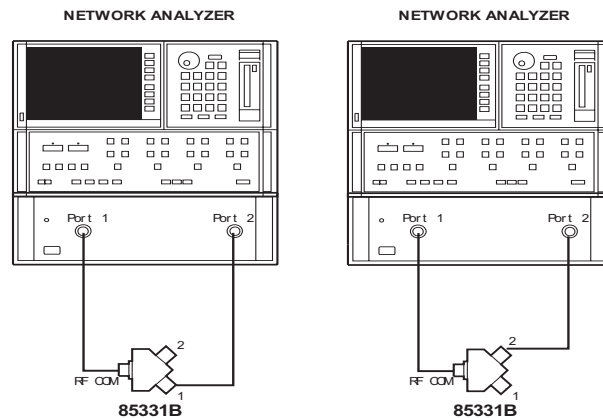

Figure 7 Connection to Perform Quick Check
1. Connect RFCOM to Port 1 of the network analyzer and either RF1 or RF2 to Port 2 as illustrated in Figure 7.